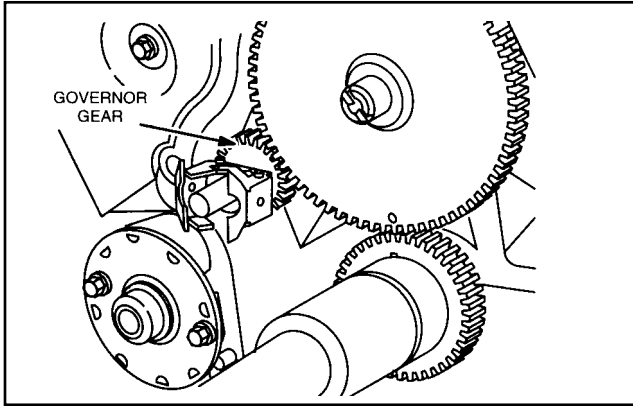

**Fig. 13 - Install Governor Shaft Bushing**
- 2. Using Briggs & Stratton Tool P/N 19129, press in bushing until it bottoms, Fig. 13.